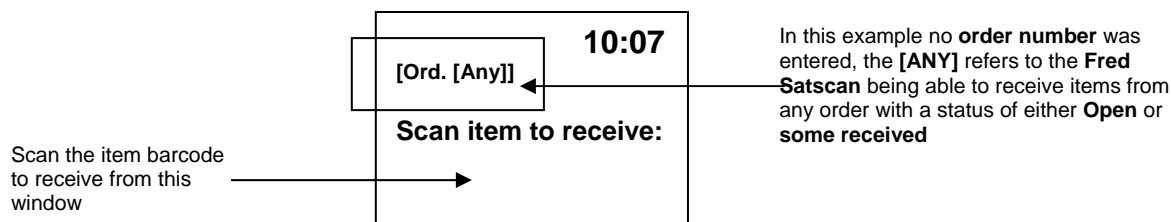

Figure 11: Receiving items using Fred Satscan
- Scan the barcode of an item found in the order, refer to Figure 11